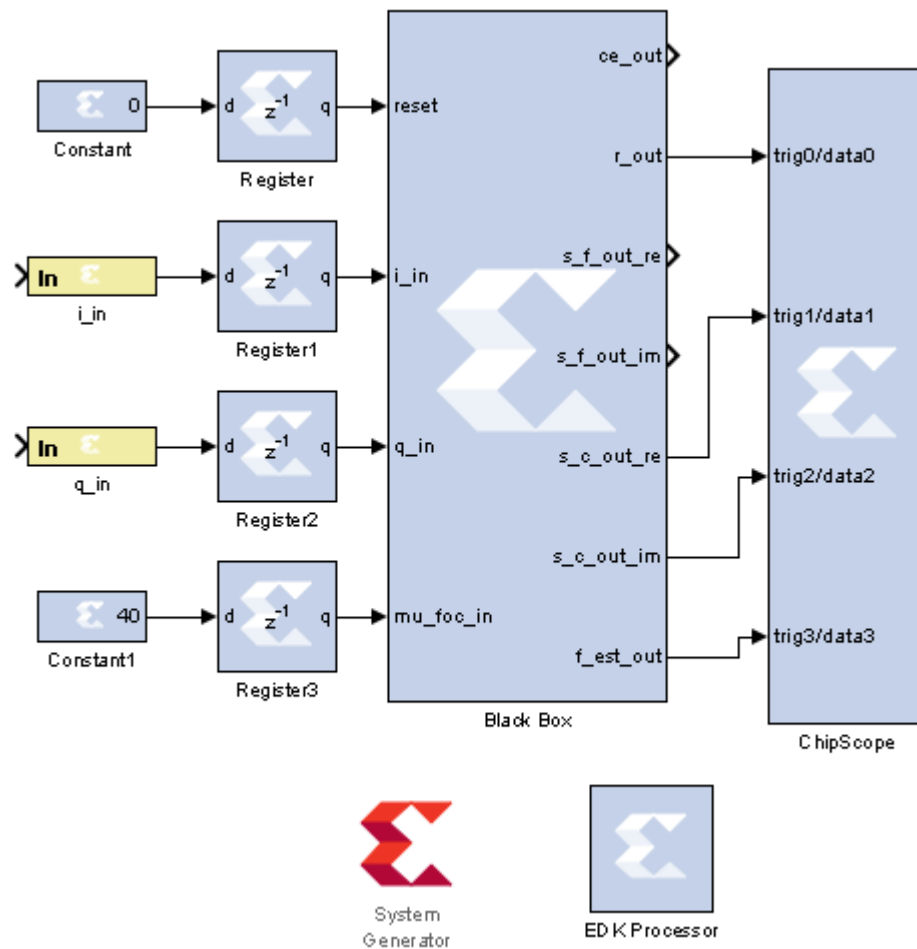

Figure 2-4: Simulink model for receiving DC Offset output
The **Simulink model**4 exported from your previous HDL Coder project is shown in Figure 2-4. This model will be used for receiving the DC offset correction output and sending the data to ChipScope for extraction.
1. **Modify** the Simulink model `rx.slx` created earlier to look similar to Figure 2.4.